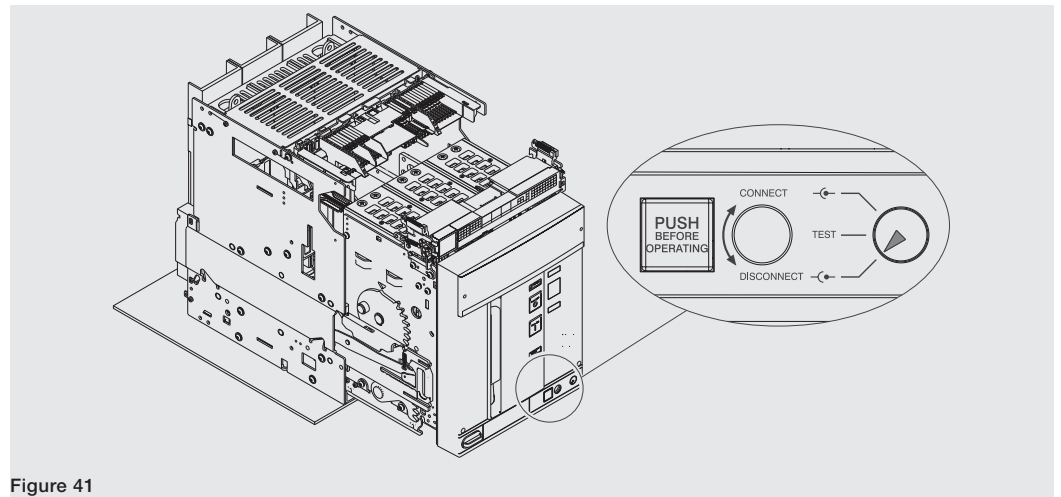

Figure 41
5. Make sure that signalling device indicates the **DISCONNECT** position. See Figure 41.